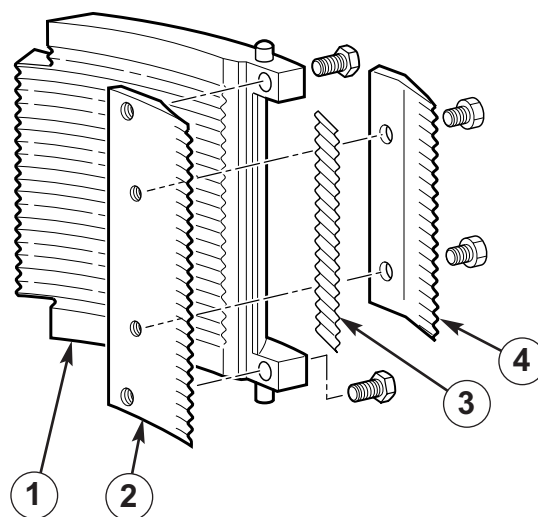

Figure 25 — Typical shredding shoe. (1) Shoe, (2) Knife Holder, (3) Knife, (4) Knife Clamp
3. **Remove knife clamps and knives.** Two fasteners hold knife clamp to knife holder (Figure 25).